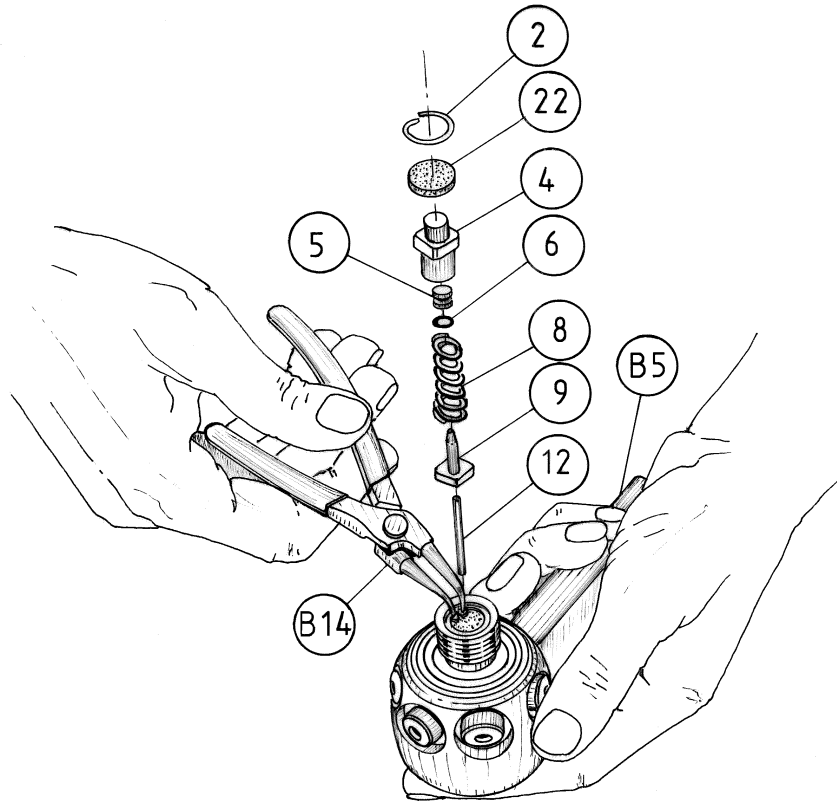

FIG. 2
- A. Using the 6-mm hex wrench (B-8), unscrew the DIN connector coupling (51) and remove O-Rings (23) and (50) from it.
- B. Remove the threaded locking ring (49).
- C. Using the 28-mm open end wrench (B-16), unscrew the DIN connector body (48) and remove O-Ring(23).
- 8. Remove the O-Ring(153) from the 1st Stage body.
- 9. Using the snap ring pliers (B-14), remove the following from the 1st stage body (1): the snap ring (2), the sintered filter (22), the HP chamber assembly (4+5+6), the spring (8), the poppet (9) and the poppet pin (12). (Fig. 2).